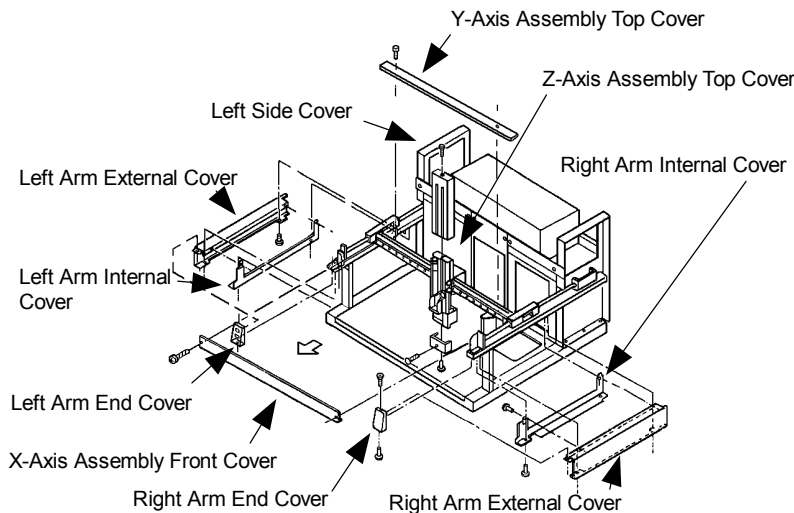

Figure 5-11. X, Y, and Z-Axis Covers
4. Refer to **Figures 5-11** and **5-12** for the following steps.
4. Refer to **Figures 5-11** and 5-12 for the following steps.